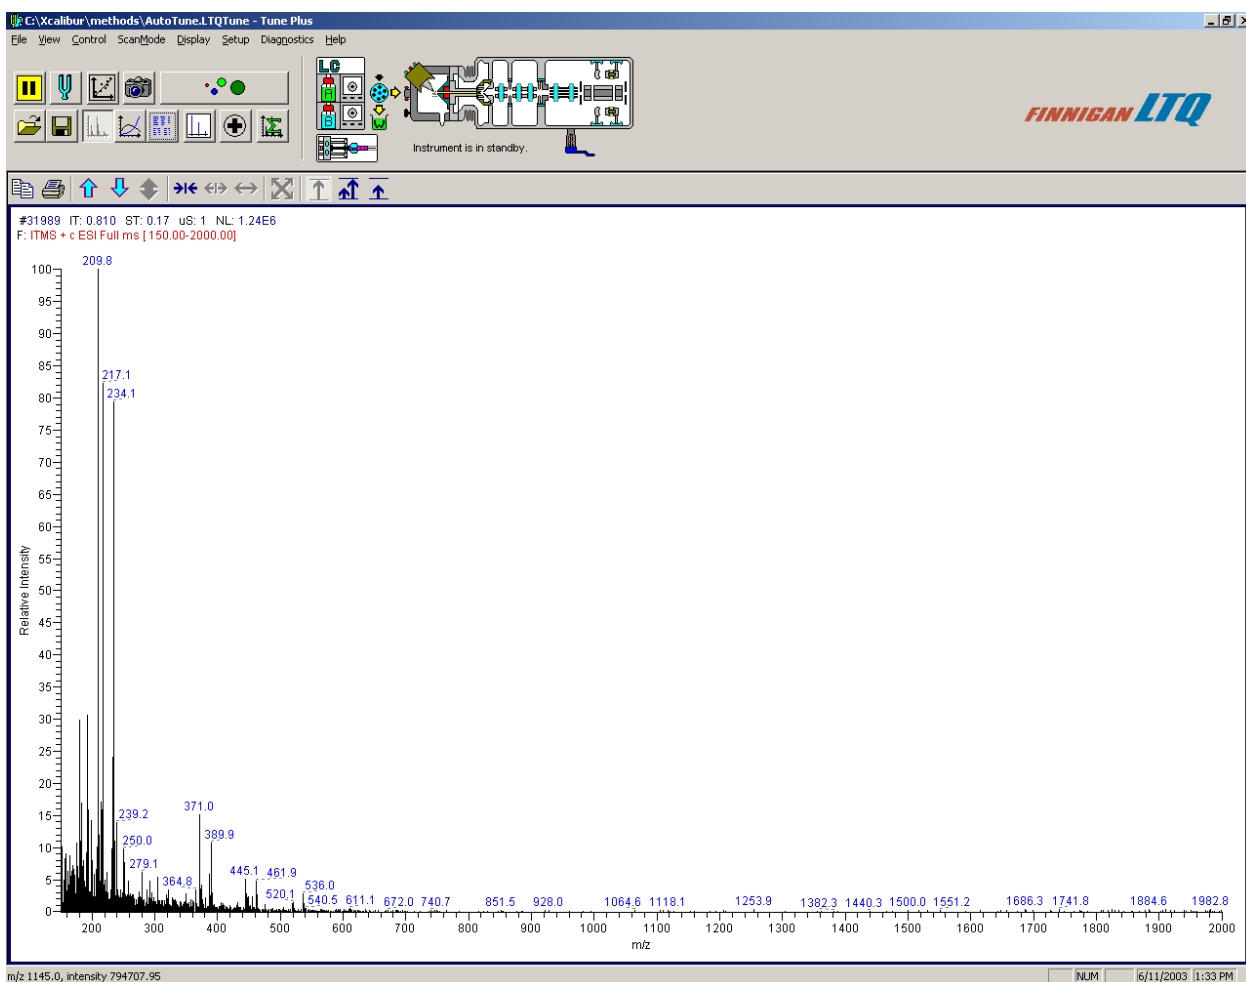

Figure 3-3. Tune Plus window, showing the MS detector in the Standby mode
d. Click on the Tune Plus button to display the Tune Plus window. See Figure 3-3.